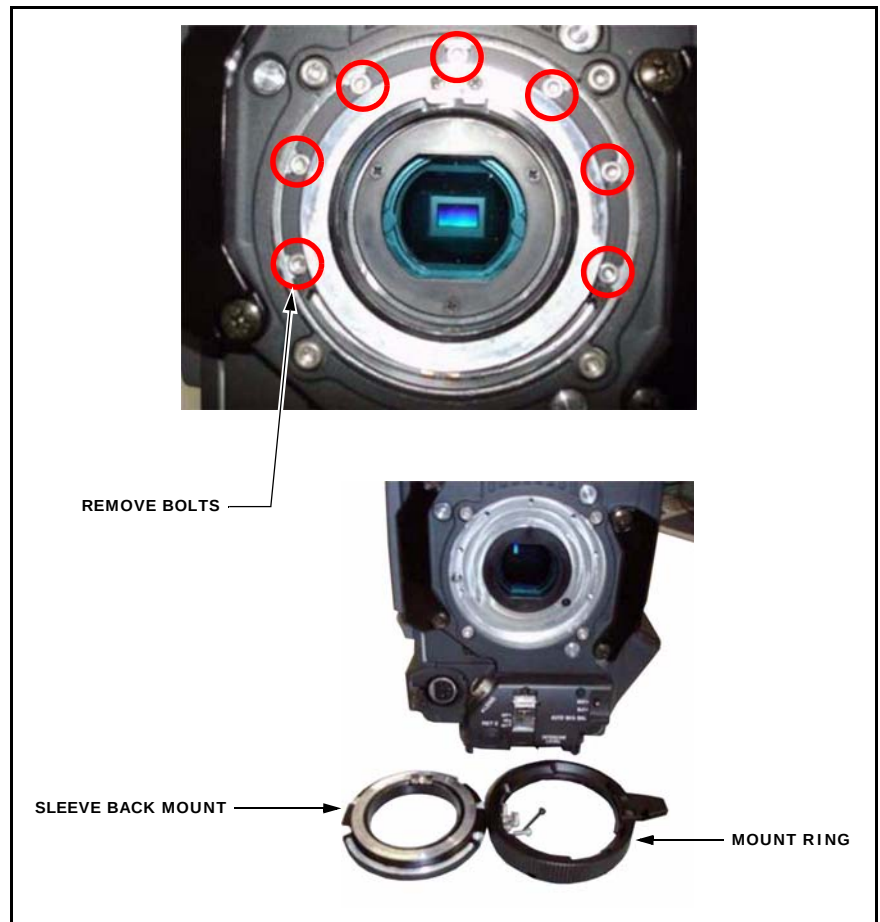

Figure 4
4. Remove the seven bolts, and remove the former sleeve back mount. (See Figure 4.)